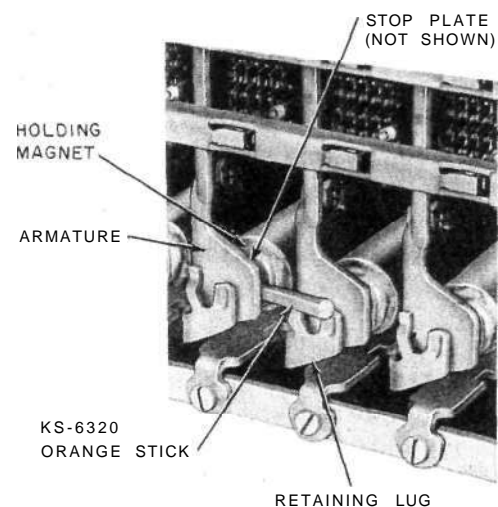

Fig. 31 —Blocking 324-, 325-, 328-, 334-, and 338-Type Switch Holding Magnets - Nonoperated
3.27 324-, 325-, 328-, 334-, and 338-Type Switches: Fig. 31 and 32
- (1) Block the holding magnet nonoperated by inserting the 768A blocking tool between the core and the holding armature, similar to the method used in Fig. 31.